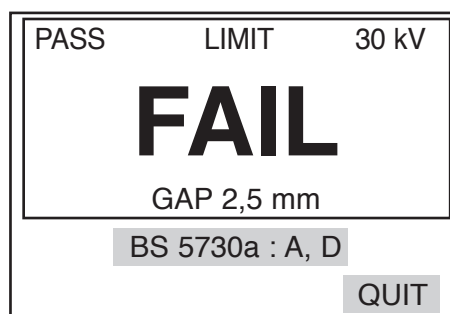

Figure 13b
8. The sequence of events is now dependent on the result of the second test. If the test was unsuccessful no further testing takes place. The display figure 13b is presented.
11. If the test was successful the display of figure 13a is presented, alternatively figure 13b will be displayed if the third test is unsuccessful.